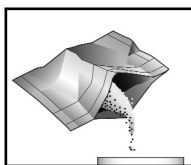

Figure 1
2. Empty the contents of one Cadmium Foil Pack into the reaction tube (fig 1). Cap the reaction tube and shake it vigorously for exactly **3 minutes**. Allow the sample to sit undisturbed for **2 minutes**.